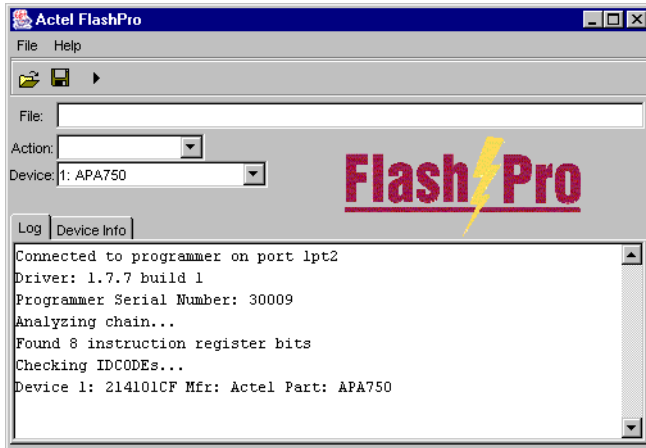

Figure 2-4. FlashPro: Analyzing Chain
1. **From the File menu, click Analyze Chain.** Chain details appear in the Log window, as shown in Figure 2-4. If you encounter any failures,